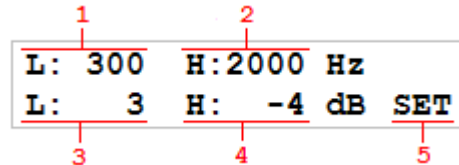

Fig. 3.8 Target curve screen.
To customize automatically generated target curves place the screen cursor over the TARGET option (Fig. 3.8 option 1) and press ENTER to display the target curve screen.
Using the target curve screen you can add boost or attenuation at frequencies below (1) and above (2). For example, if you want to add a boost of 3 dB to frequencies below 300 Hz, set the fields (1) and (3) as displayed in Fig. 3.8. To add attenuation of -4 dB to frequencies above 2000 Hz set the fields (2) and (4) as displayed in Fig. 3.8.